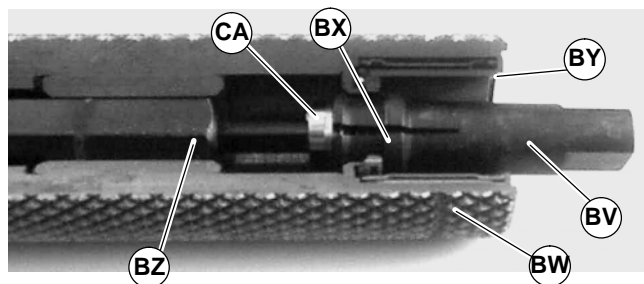

Figure 58
1. Insert bearing removal tool (BV of Figure 58)(25-05, part of tool kit 4500) into the pulley (BW) until shoulder (BX) seats against bottom of bearing (BY).